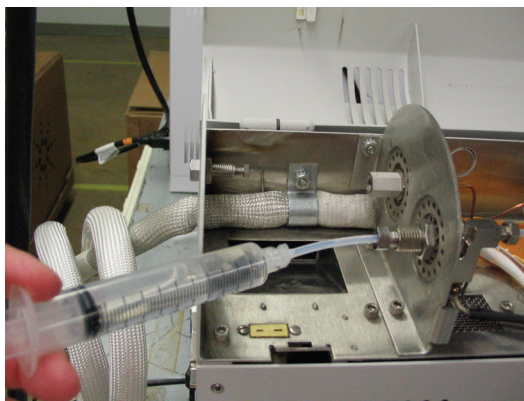

Figure 6.41. Rinsing the Sample Pathway with Methanol
6. Using the rinsing tool and the syringe, rinse 10 mL of methanol through the transfer line (see Figure 6.41). Repeat twice more with clean aliquots of methanol.